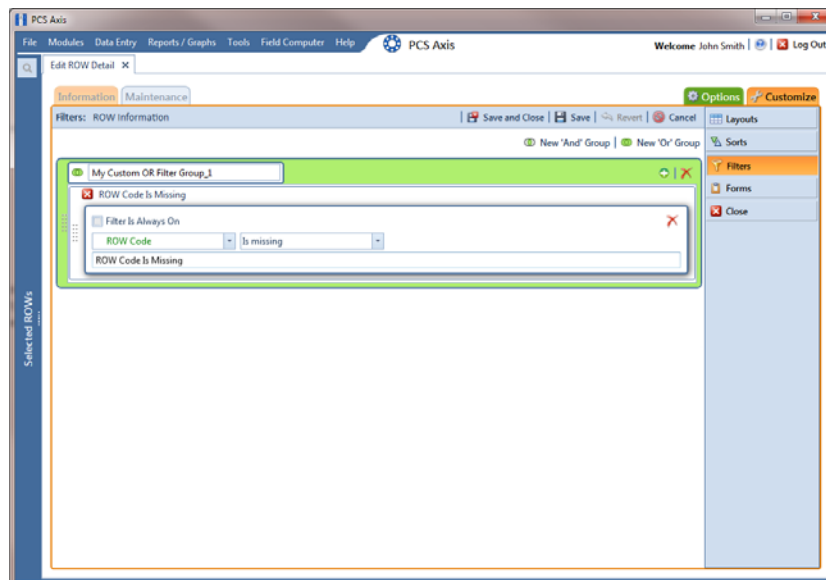

Figure 4-42. Filters
- 4 Click the **Customize** tab  then the **Filters** button  to open the *Filters* page (Figure 4-42).
- 6 Type a name for the filter group in the field **Include records that match any of these conditions** (Figure 4-42, page 166).